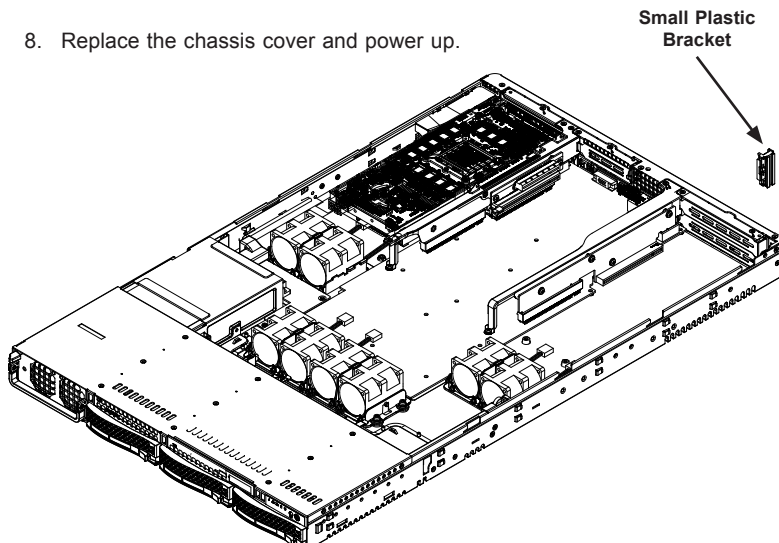

Figure 6-13. Plastic Bracket to Secure the Rear Plate
4. Remove the PCI slot shield in the rear of the chassis. Remove the small plastic bracket from the right, rear corner of the chassis (Figure 6-13).
3. Remove the PCI slot shield in the rear of the chassis. Remove the small plastic bracket from the right, rear corner of the chassis (Figure 6-13).